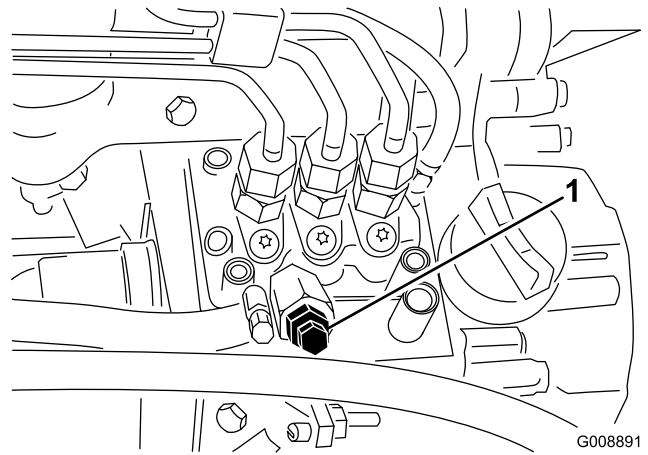

Figure 41
3. Open the air bleed screw on the fuel injection pump (Figure 41).